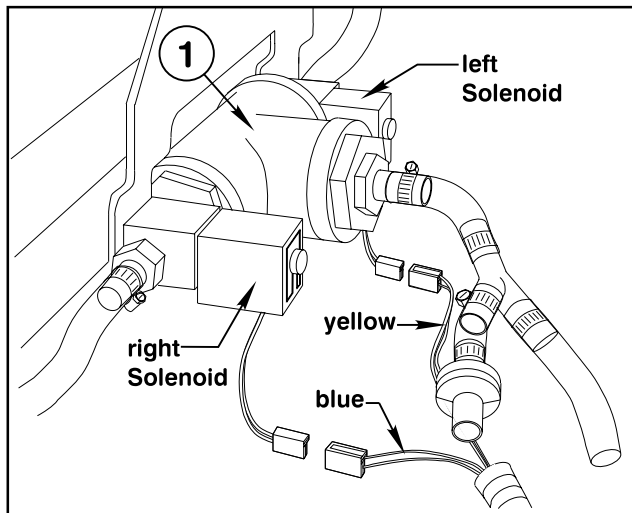

Fig. 5
12. Plug the harness connectors into the Boom Solenoid Assemblies. Plug connector with blue wire to the right solenoid and connector with yellow wire to the left solenoid. (Fig. 5)